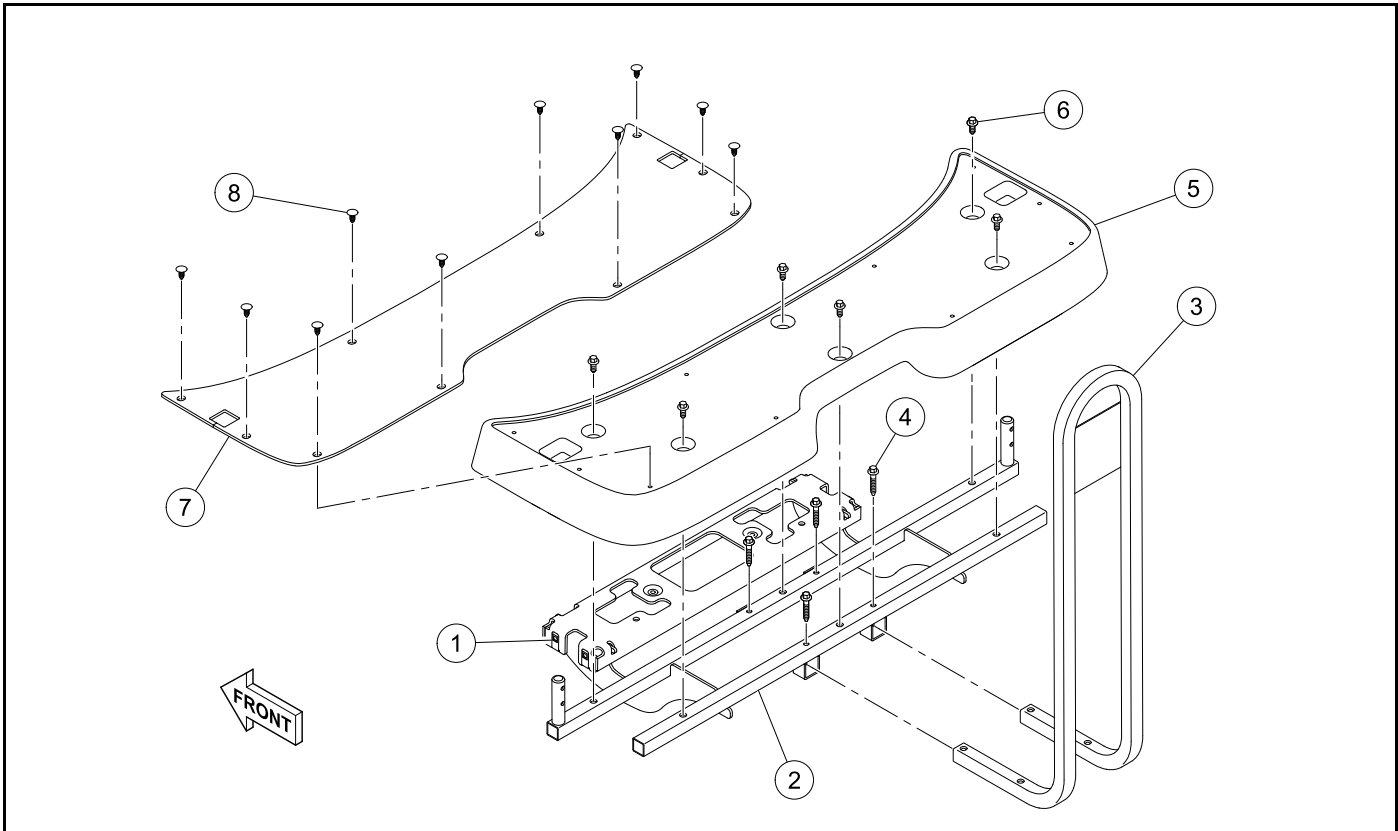

Figure 4-54
1. Make sure the J-clips (1) are installed on the foot deck support (2) (**Figure 4-54**).
2. Install the handrail (3) into the foot deck support.
3. Install the screws (4). Tighten the bolts to 5.5 lb·ft (7.5 N·m).
4. Install the foot deck (5) onto the foot deck support.
5. Install the screws (6). Tighten the screws to 6 lb·ft (8 N·m).
6. Install the floor mat (7) onto the foot deck.
7. Install the push rivets (8).